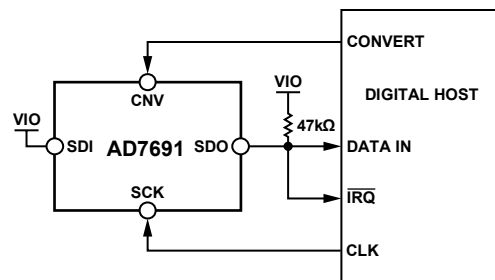
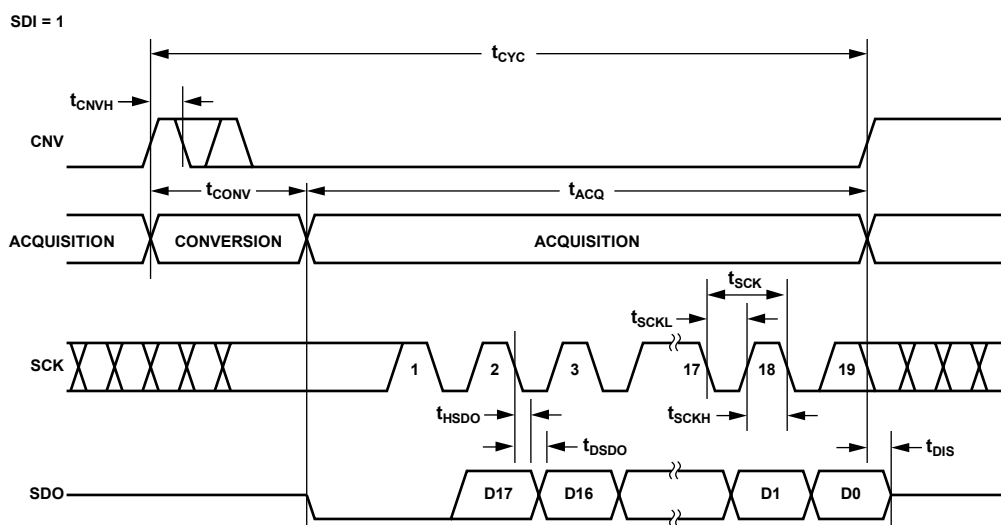
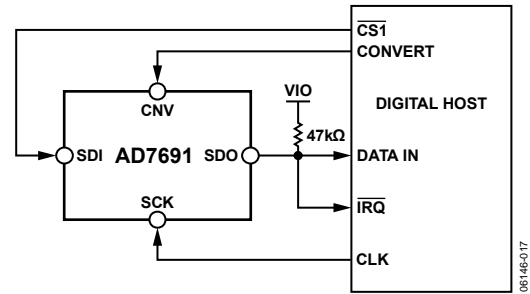
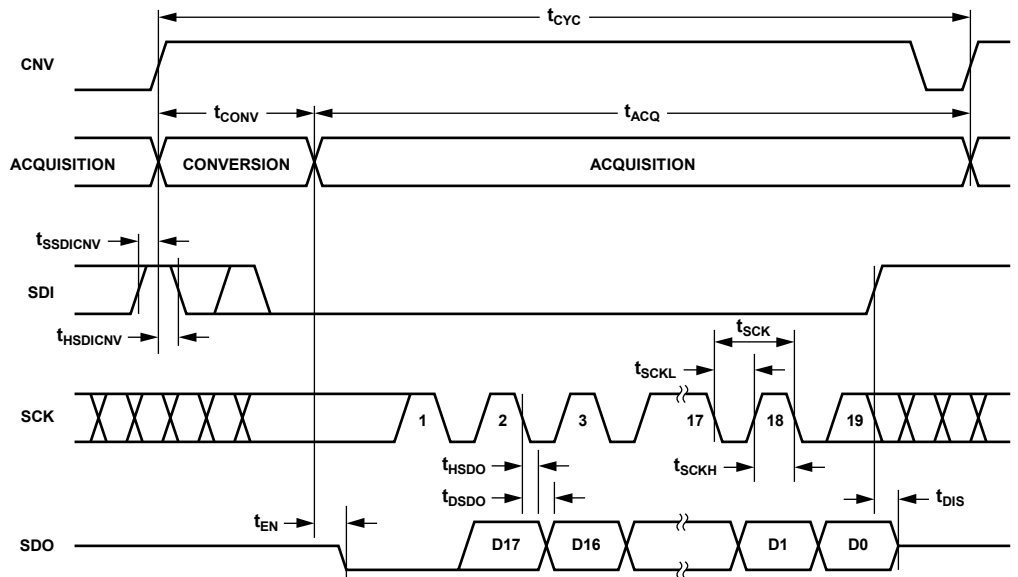

Figure 37. 3-Wire \overline{CS} Mode with Busy Indicator Connection Diagram (SDI High)
Figure 38. 3-Wire \overline{CS} Mode with Busy Indicator Serial Interface Timing (SDI High)
Figure 41. 4-Wire \overline{CS} Mode with Busy Indicator Connection Diagram
Figure 42. 4-Wire \overline{CS} Mode with Busy Indicator Serial Interface Timing
- In the \overline{CS} mode if CNV or SDI is low when the ADC conversion ends (see Figure 38 and Figure 42).
The connection diagram is shown in Figure 37, and the corresponding timing is given in Figure 38.
The connection diagram is shown in Figure 41, and the corresponding timing is given in Figure 42.